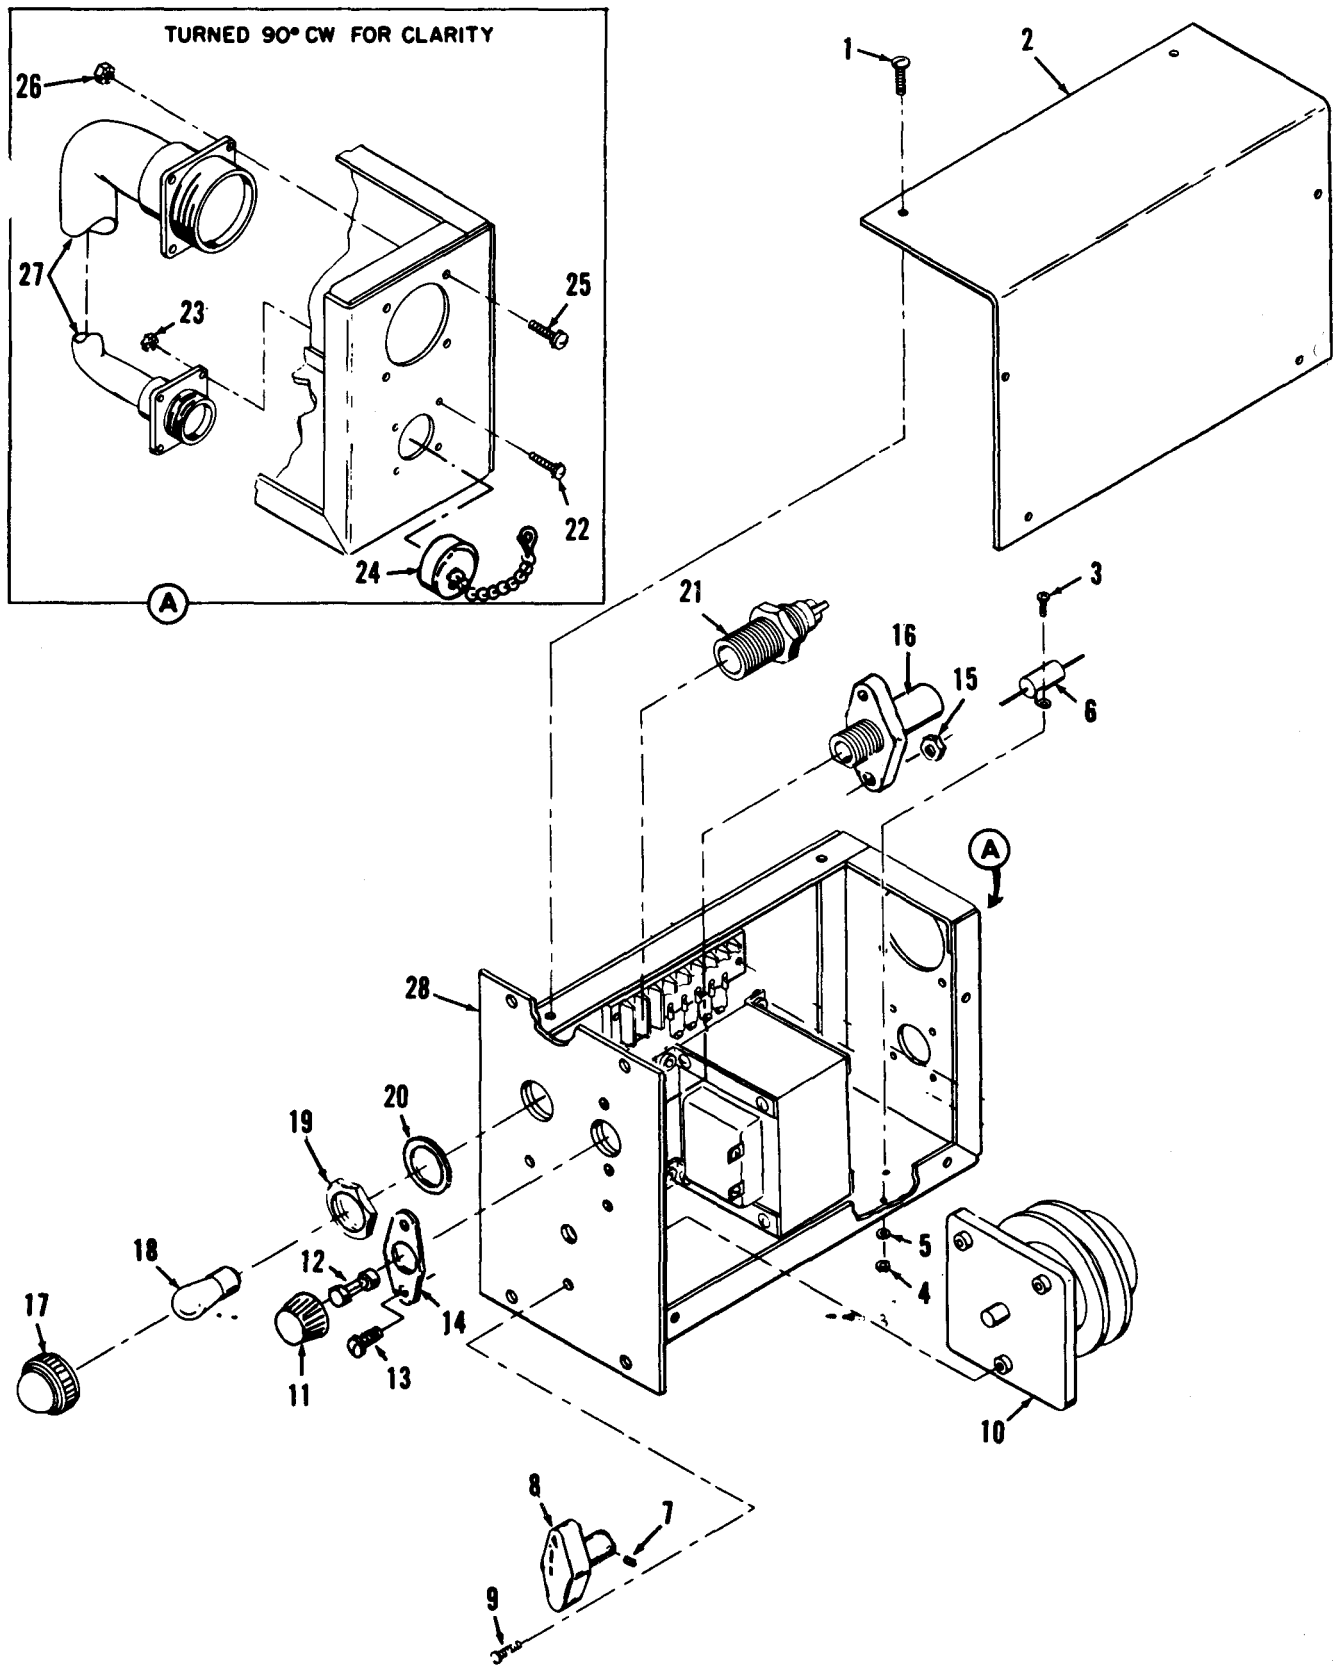

Figure 4-7. Electric heater kit control box, partially exploded view
a. INDICATOR LAMP REPLACEMENT. To replace indicator lamp, refer to figure 4-7 and proceed as follows:
1. Unscrew lens (17) and remove lamp (18) by pressing in and turning counterclockwise.
b. FUSE REPLACEMENT. To replace fuse, refer to figure 4-7 and proceed as follows:
1. Unscrew cap (11) and remove fuse (12) from cap.
1. Remove cover (2, figure 4-7).
2. Test resistor (6, figure 4-7) for proper ohmic value. Value should be 2.49K ohms, 10 watts, ±1 percent.
3. Test switch (10), fuse holder (16), and light (21) for continuity.
6. Replace defective control box components as illustrated in figure 4-7. Prior to component removal, tag and disconnect wires from defective component. Replace cover (2).
Legend to figure 4-7: